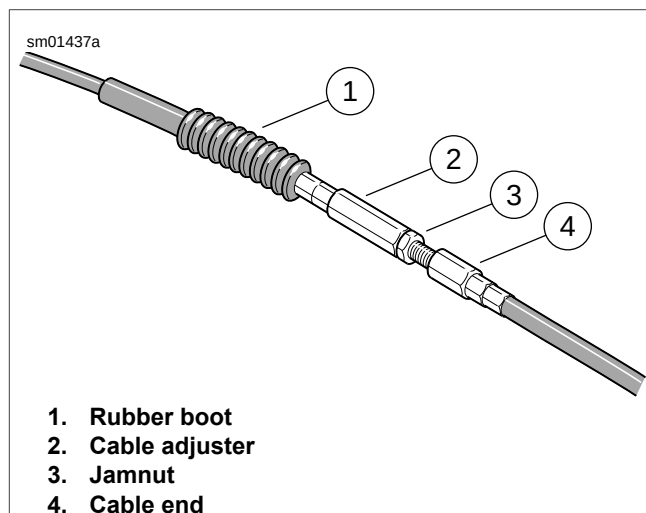

Figure 1-25. Clutch Cable Adjuster
3. See Figure 1-25. Pull the boot (1) away from the cable adjuster (2).
4. Loosen the jamnut (3).